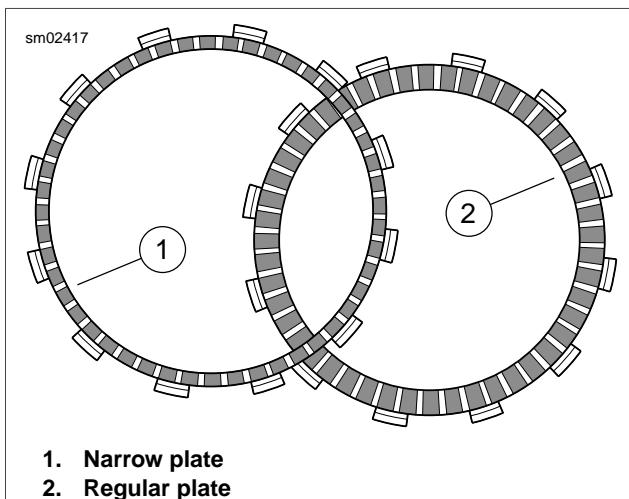

Figure 6-31. Friction Plates
1. See Figure 6-31. Install the narrow friction plate on the clutch hub. Engage tabs on plate with slots in clutch shell.